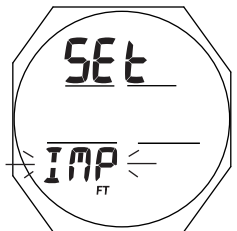

Fig. 48 - SET UNITS
**Set Units**, information includes (Fig. 48):